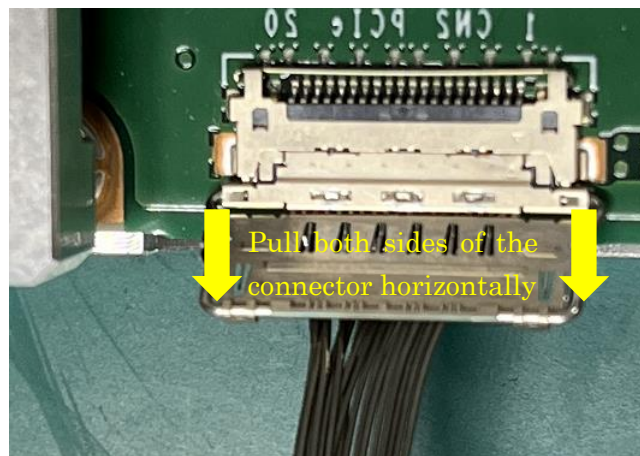

Figure 4-10 Removing the data interface cable
- ② As shown in Figure 4-10, pull both sides of the plug connector horizontally to remove it. When removing the plug connector, pull both ends horizontally to avoid tilting the plug connector. There is a risk of damaging the connector. Also, do not remove the plug connector by pulling on the cable. Doing so may cause cable breakage.